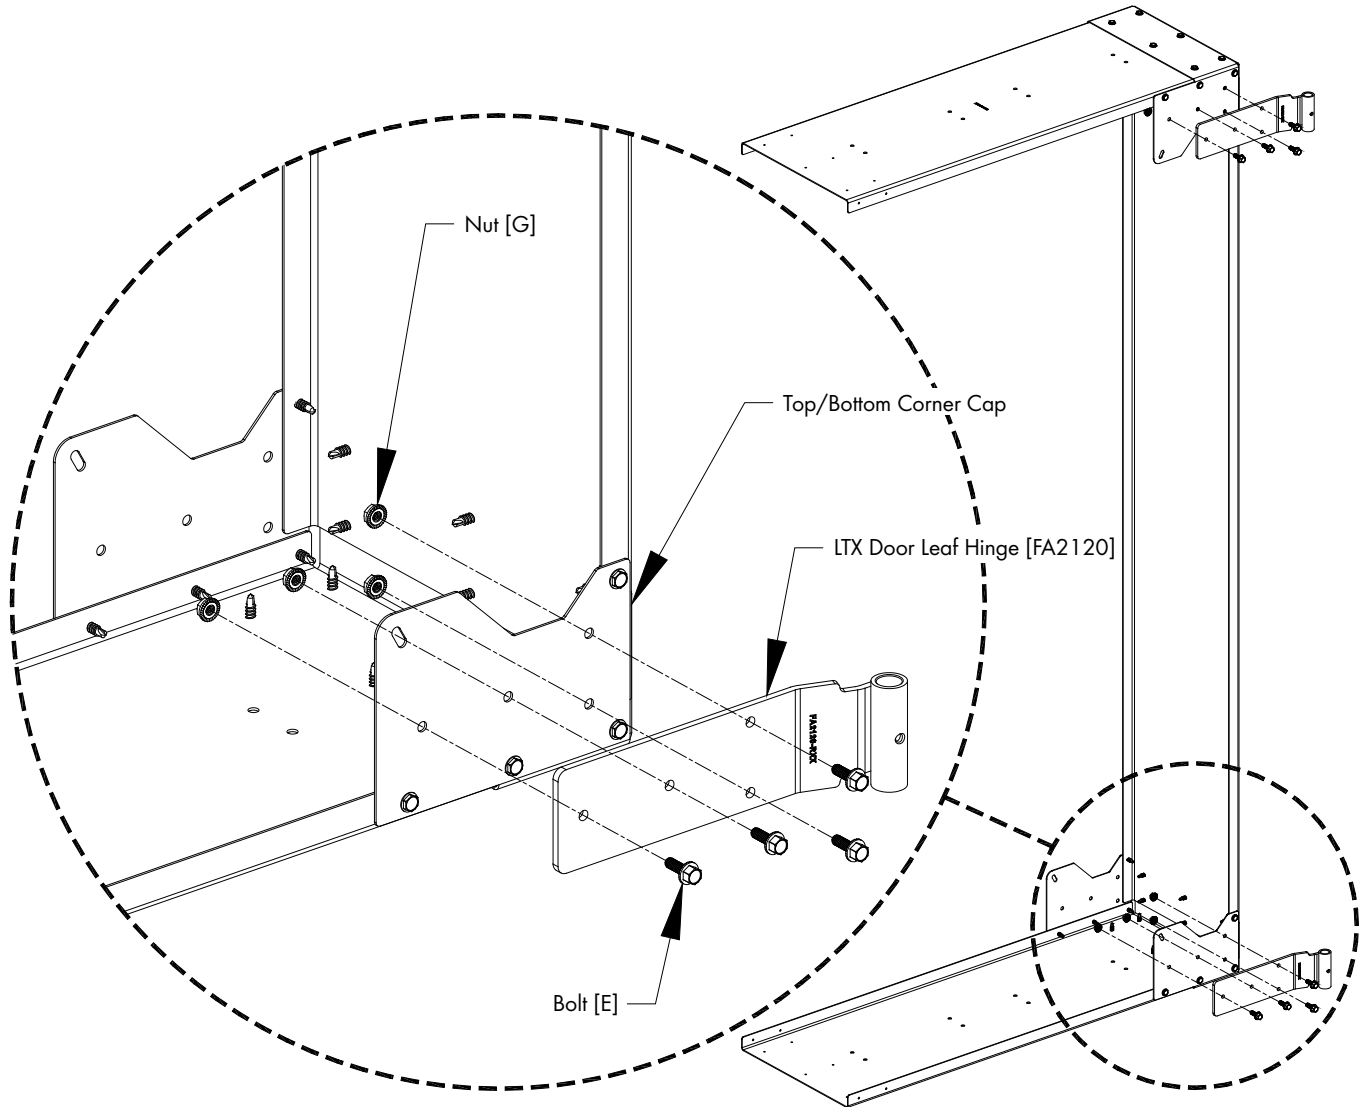

Figure 17
Attach (1) Leaf Hinge [FA2120] to Top Corner Cap and one to the Bottom Corner Cap assembled in the previous step using (4) Bolts [E] and Nuts [G]. *See Figure 17.*